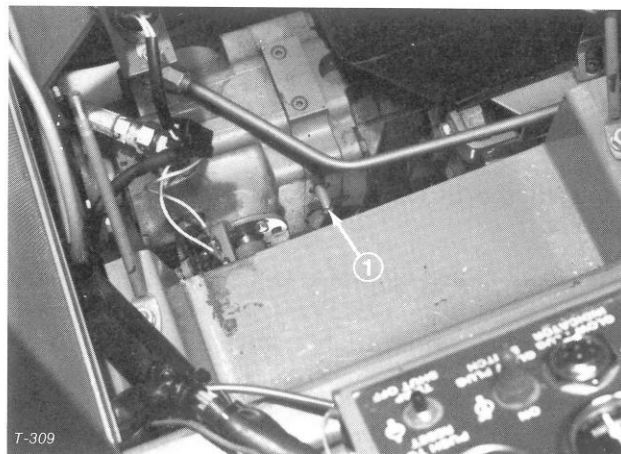

Figure 11
1. Reach in and rotate by-pass valve on transmission (Fig. 11) counterclockwise 1/2 to 1 turn. Opening the valve opens an internal passage in the pump, thereby bypassing transmission oil. Because fluid is by-passed, the machine can be pushed without damaging the transmission.